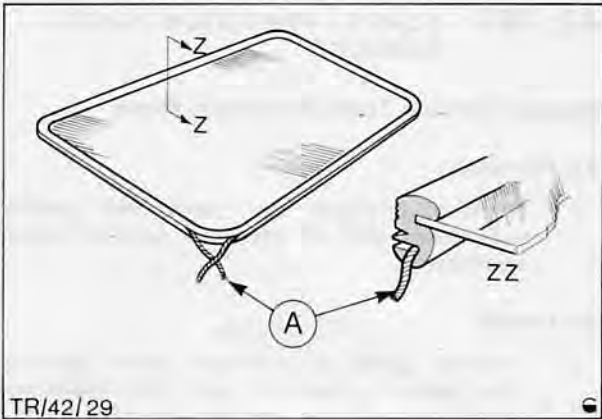

Fig. 27. Glass, weatherstrip and drawcord assembly
- 6. Allow a crossover of cord ends of approximately 1500 mm (6,0 in). If draw cord is passed through short length of metal tube and tube then used to separate weatherstrip lips insertion of cord may be simplified by drawing tube around periphery of weatherstrip Fig. 27.